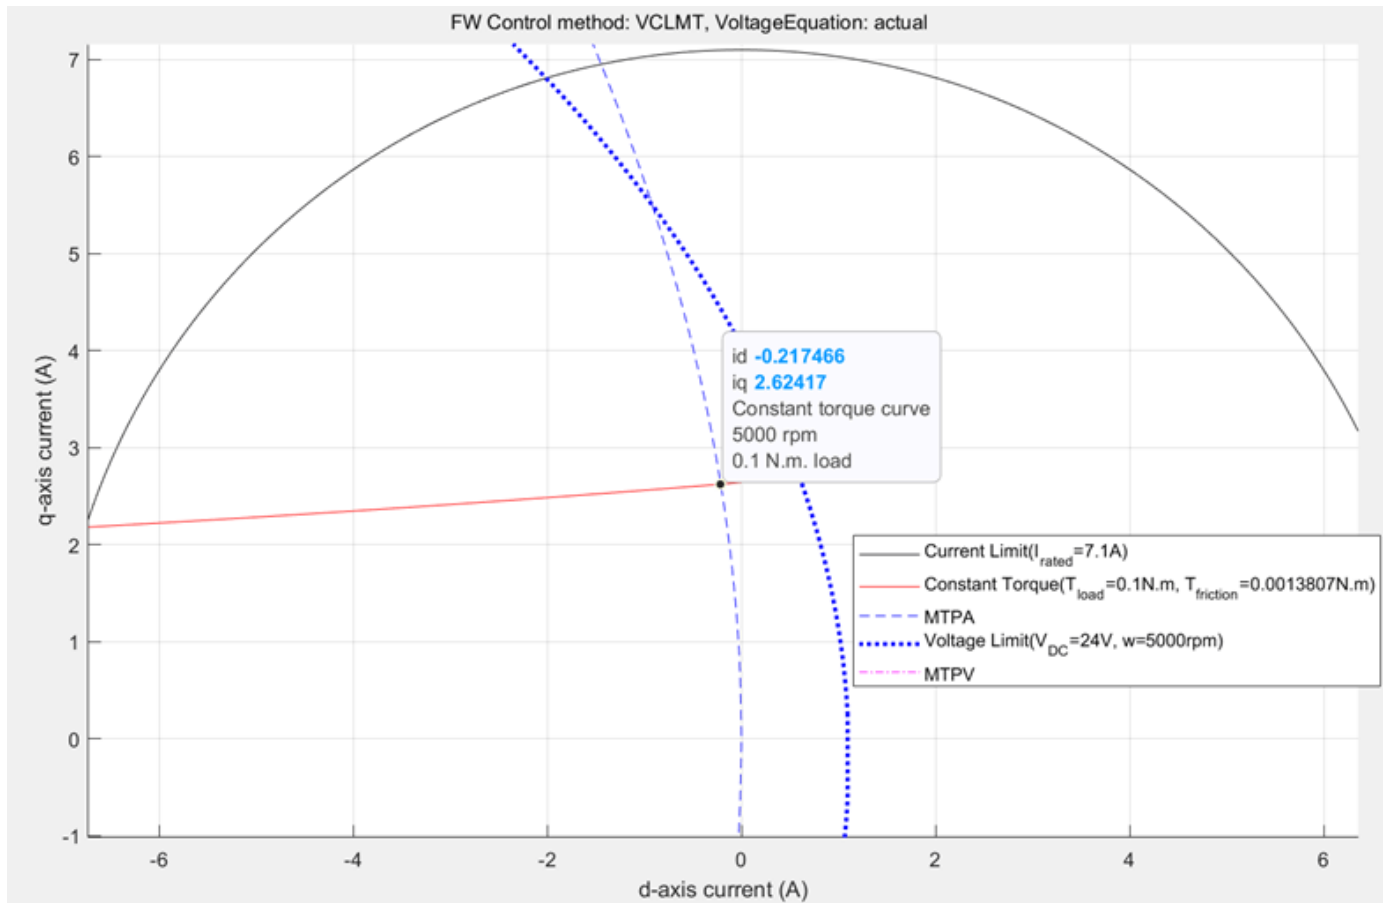

Figure 20: Zoomed-in portion of the figure 19 to show the selected operating point for the given speed and torque.
From the constraint curves shown in figure 20, you can notice that for the given speed, the voltage limit ellipse does not touch the operating point (i_d, i_q), but encloses it. At a slightly higher speed (until the voltage limit curve touches the identified operating point) the same operating point (i_d, i_q) is still the optimal operating point. Note that when the voltage limit curve touches the identified operating point (i_d, i_q), v_s is identical to v_{max} , and the corresponding speed is the corner speed at the load torque. At a speed higher than this corner speed, the voltage limit is exceeded if you follow the MTPA trajectory, and therefore, you can start the field weakening (FW) operation.